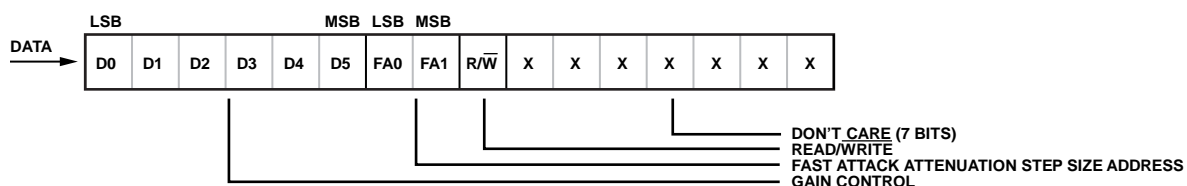

Figure 53. 16-Bit SPI Register
The SPI uses three pins (SDIO, SCLK, and  $\overline{\text{CSA}}$  or  $\overline{\text{CSB}}$ ). The SPI data register consists of two bytes: six gain control bits (D0 to D5), two attenuation step size address bits (FA0 and FA1), one read/write bit (R/W), and seven don't care bits (X), as shown in Figure 53.